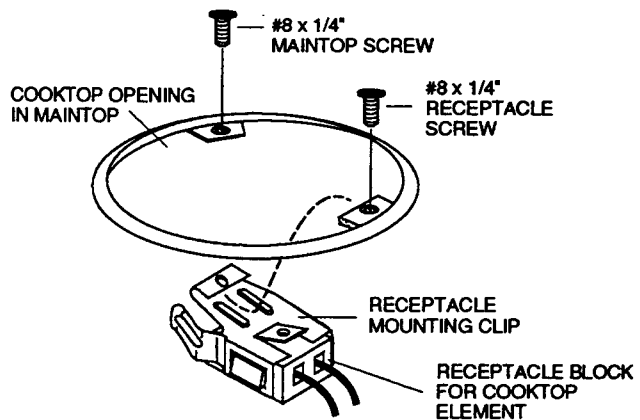

FIGURE 4-1
4. Remove the phillips screws from the cooktop receptacle block mounting clips (see Figure 4-1), and unhook them from the maintop.
5. Remove the phillips screws inside each of the cooktop element openings that secure the maintop to the rough-in box (see Figure 4-1).